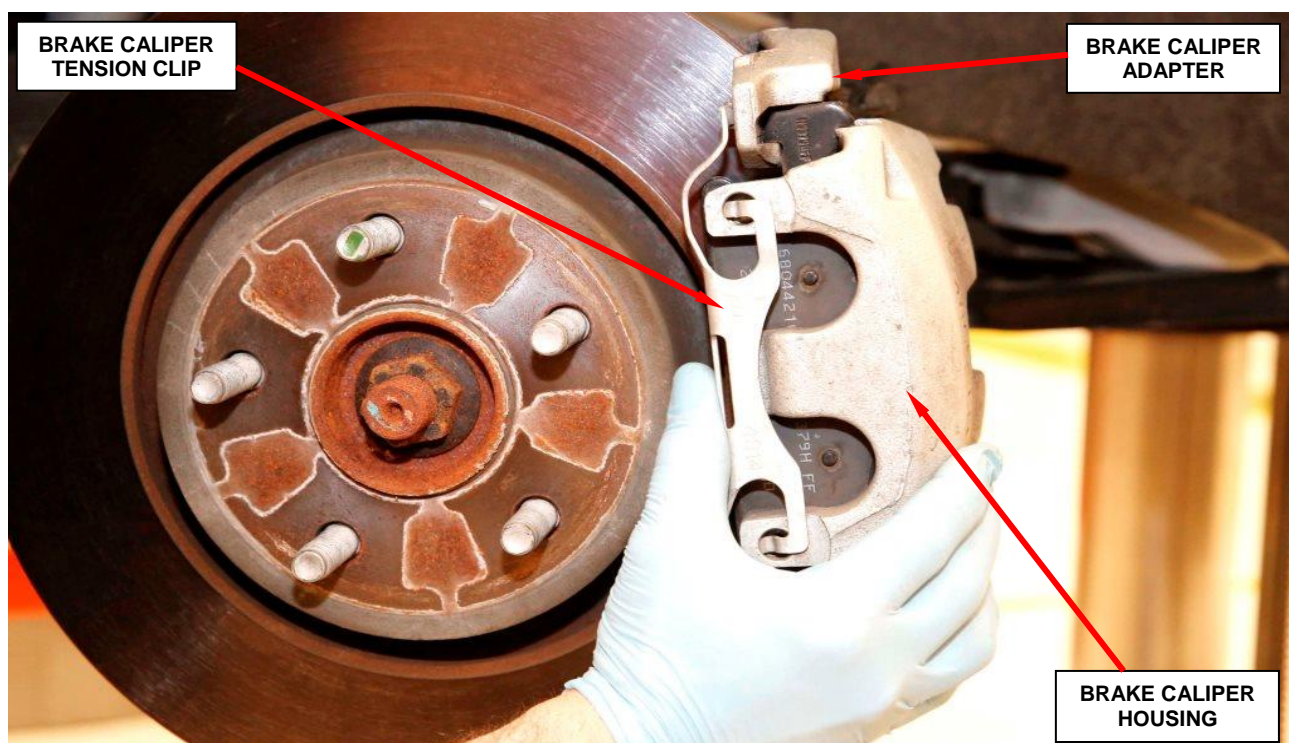

Figure 3 – Brake Caliper Tension Clip
4. Remove the brake caliper tension clip by pressing rearward on the front of the clip while pulling the clip out from the brake caliper (Figure 3).